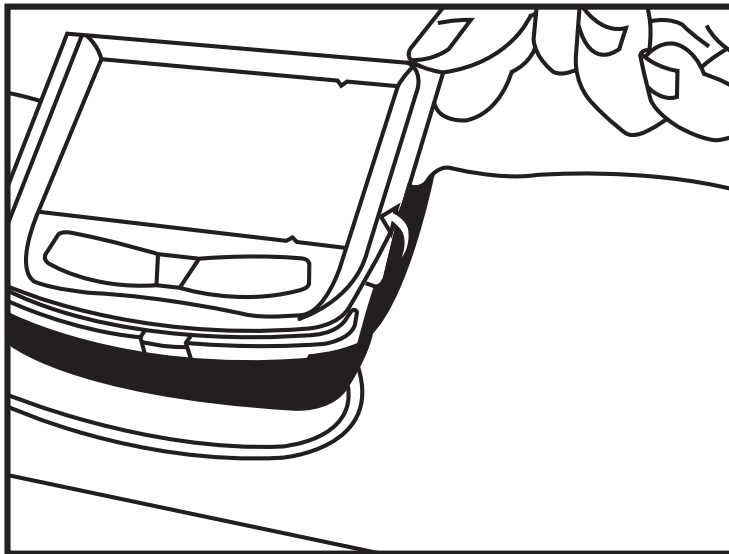

Figure 4-22. Removing the touch pad.
2. Then slide the touch pad outward until it is lifted up and is clear from the notches, as shown in Figure 4-22.